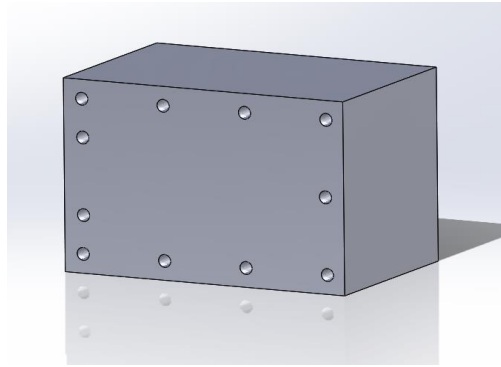

Figure 3: Assembled Pressure Regulator
For the maintenance of the bellow pressure regulator the bellows (003) may need to be replaced. The pressure regulator consists of two halves that come apart to allow for bellows replacement. The assembled case can be seen below in Figure 3.